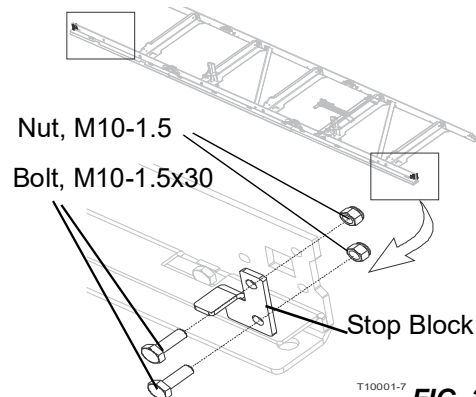

FIG. 3-15
- Attach the stop blocks (X100-1275) on the outside surface of the bed section at the head of the bed using M10-1.5x30 bolts. Tighten the nuts. See FIG. 3-15.